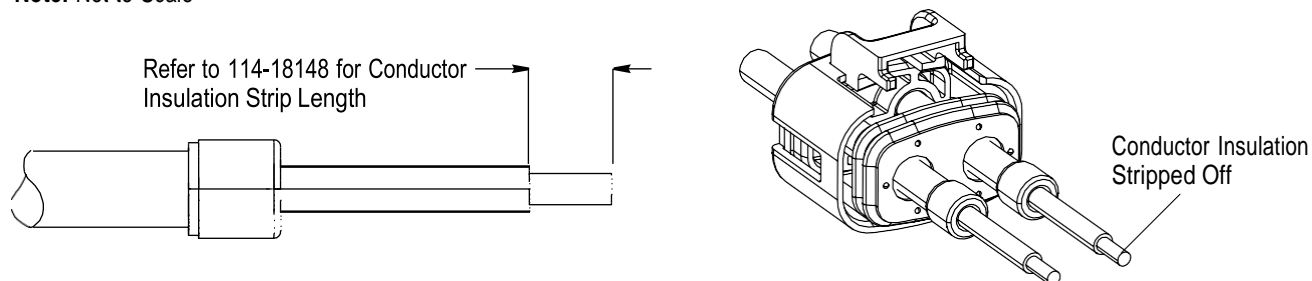

Figure 8
6. Strip the conductor insulation off of each cable to the dimension defined in Application Specification 114-18148. See Figure 8.